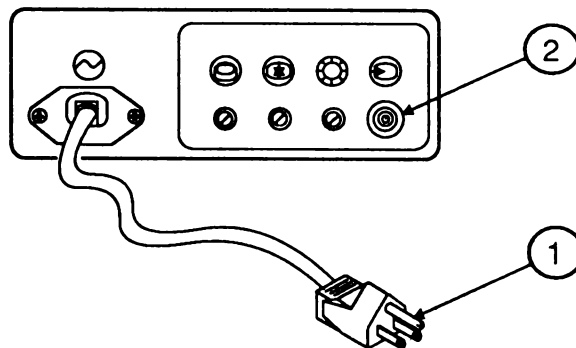

**FIGURE 2**
3. Touch the black lead of the multimeter to the AC power cord ground pin (Figure 2, #1).
4. Touch the red lead of the multimeter to the metal casing of the video connector (Figure 2, #2) at the rear of the monitor. (Repeat this procedure several times to be sure you are getting a consistent reading.)